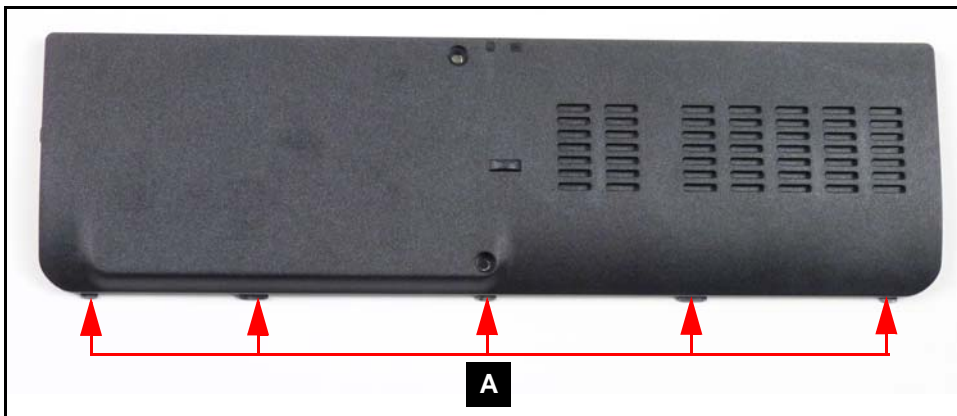

Figure 3-11. Base Door Flanges
1. Insert door flanges (A, Figure 3-11) into slots on lower cover.